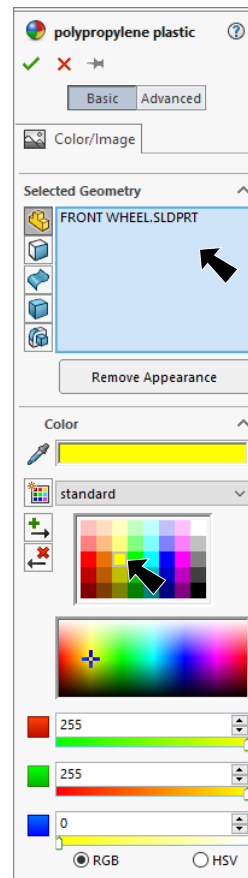

Fig. 18
Step 3. In the Appearances Property Manager under **Color**, **Fig. 18** click the **3rd yellow swatch** click **OK** .